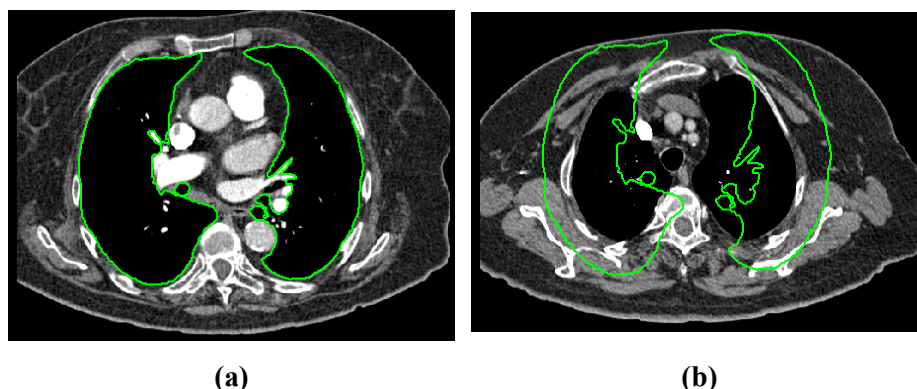

Figure 261 – Contour on the last image (a), Accepted nearest contour from the last image into the 1st image (b)
3. The nearest drawn contour is then automatically copied to the current image (see Figure 261).